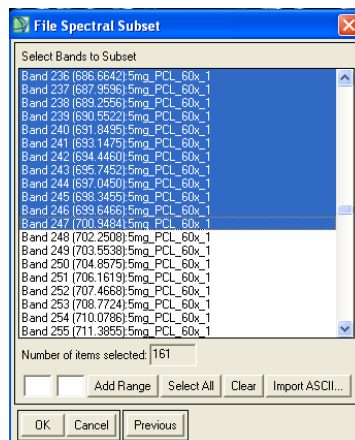

Figure 56. File Spectral Subset window
3. Select the range of spectra to become the subset by clicking and scrolling (see Figure 56)